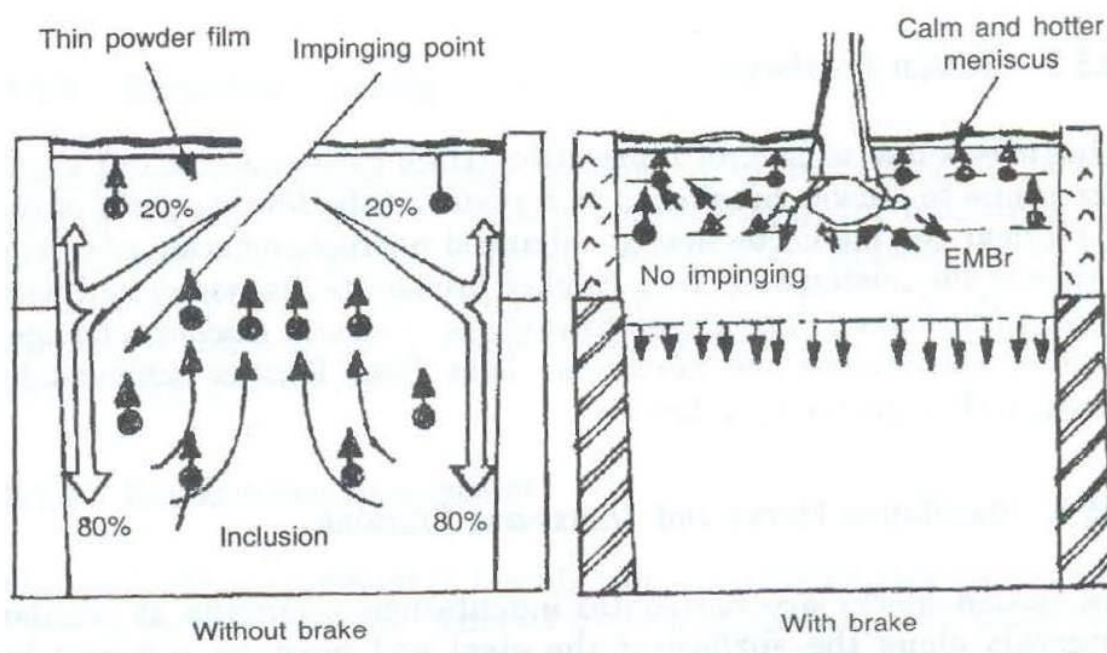

Figure 49.2: Flow field improvisation using EMBR
- EMBR: Electromagnetic break: Liquid from the SEN is ejected tangentially at a high speed through side nozzles, as shown in the Figure 49.2.
The liquid jet directly hit the wall and moves along the wall and returns back and it also incorporates lots of mould powder as inclusions and contaminate the steel. Therefore, EMBR is used to break the momentum of the liquid stream and make a smooth flow downward. Such improvisation of flow is shown in the Figure 49.2. It helps in reducing the mould powder incorporation in liquid steel.